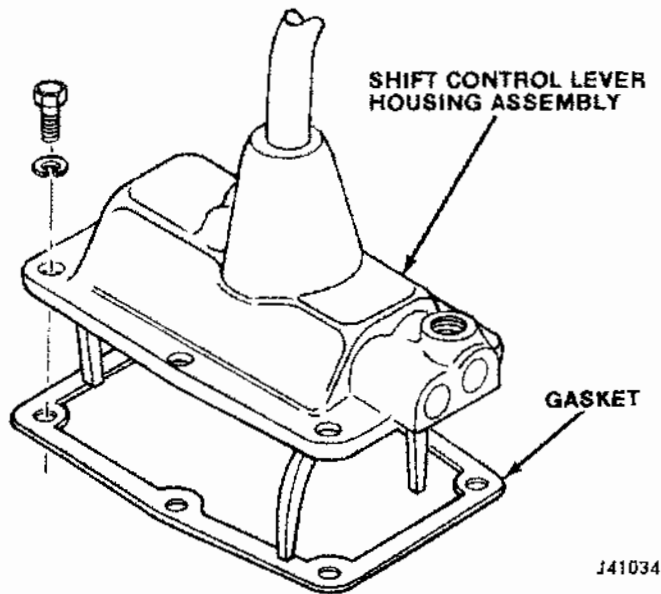

Fig. 6-1 Shift Control Lever Housing Assembly Removal - 3-Speed Transmission
- (1) Remove floor lever knob, trim ring, and boot.
- (2) Remove floor covering and floorpan section from above transmission.
- (3) On three-speed models, remove transmission shift control lever housing assembly from transmission (fig. 6-1).
(3) Install bolts which attach transmission to clutch housing.
(4) Attach support crossmember to side sills.
(5) Remove transmission jack and engine support.
(6) On models equipped with V-8 engines, connect exhaust pipes to manifolds.
(7) Connect speedometer cable, backup light switch wires, and transmission controlled spark (TCS) advance.
(8) Install front propeller shaft, align index mark made at disassembly, and connect front end of rear propeller shaft. Check for proper alignment.
- (9) Lower vehicle.
- (10) Install transfer case shift lever and bracket assembly.
- (11) On four-speed models, install pin, shift lever, spring, spring retainer, and shift control housing cap.
- (12) On three-speed models, install shift control lever housing assembly (fig. 6-1). Position transmission gear train and shift lever in neutral and enter shifter forks into clutch sleeves.
- (13) Align cover, case, and gasket holes and install capscrews and lockwashers. Tighten capscrews to 8 to 15 ft-lb torque.
- (14) Install floorpan section and floor covering.
- (15) Install floor trim boot, trim ring, and shift lever knob.
- (16) Check transmission for proper shifting.